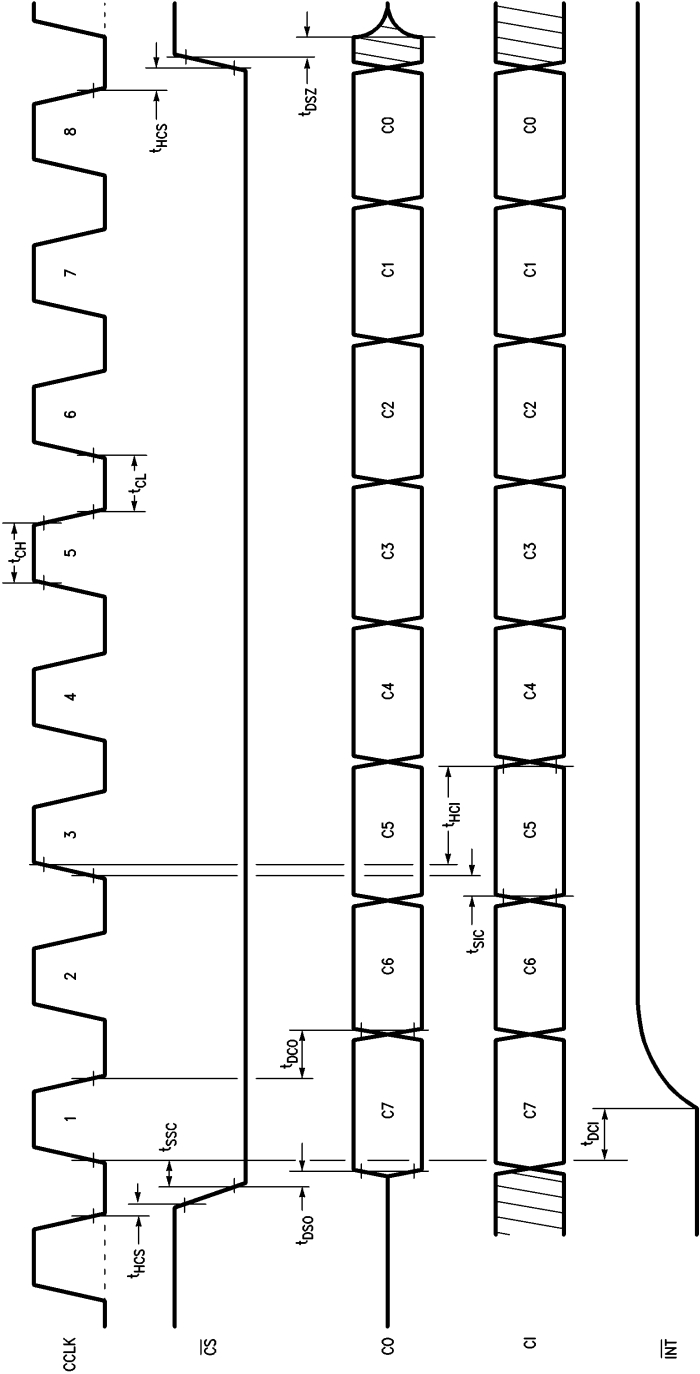

FIGURE 13. Control Interface Timing
A serial interface, which can be clocked independently from the B and D channel system interfaces, is provided for microprocessor control of various functions on the DASL device. All data transfers consist of a single byte shifted into the Control Register via CI simultaneous with a single byte shifted out from the Status Register via CO, see *Figure 13*. Data shifts in to CI on rising edges of CCLK and out from CO on falling edges when CS is pulled low for 8 cycles of CCLK. An Interrupt output, INT goes low to alert the microprocessor whenever a change in one of the status bits, C1 and/or C0 has occurred. This latched output is cleared high following the first CCLK pulse when CS is low. No interrupt is generated when status bit C2 (bipolar violation) goes high, however. This bit is set whenever 1 or more violations of the AMI coding rule is received, and cleared everytime the CS is pulsed. Statistics on the line bit error rate can be accumulated by regularly polling this bit.
*Figure 13* shows the timing for this interface, and Table II lists the control functions and status indicators.
| CONTROL INTERFACE (Figure 13)            |                                                             |                                |            |            |       |